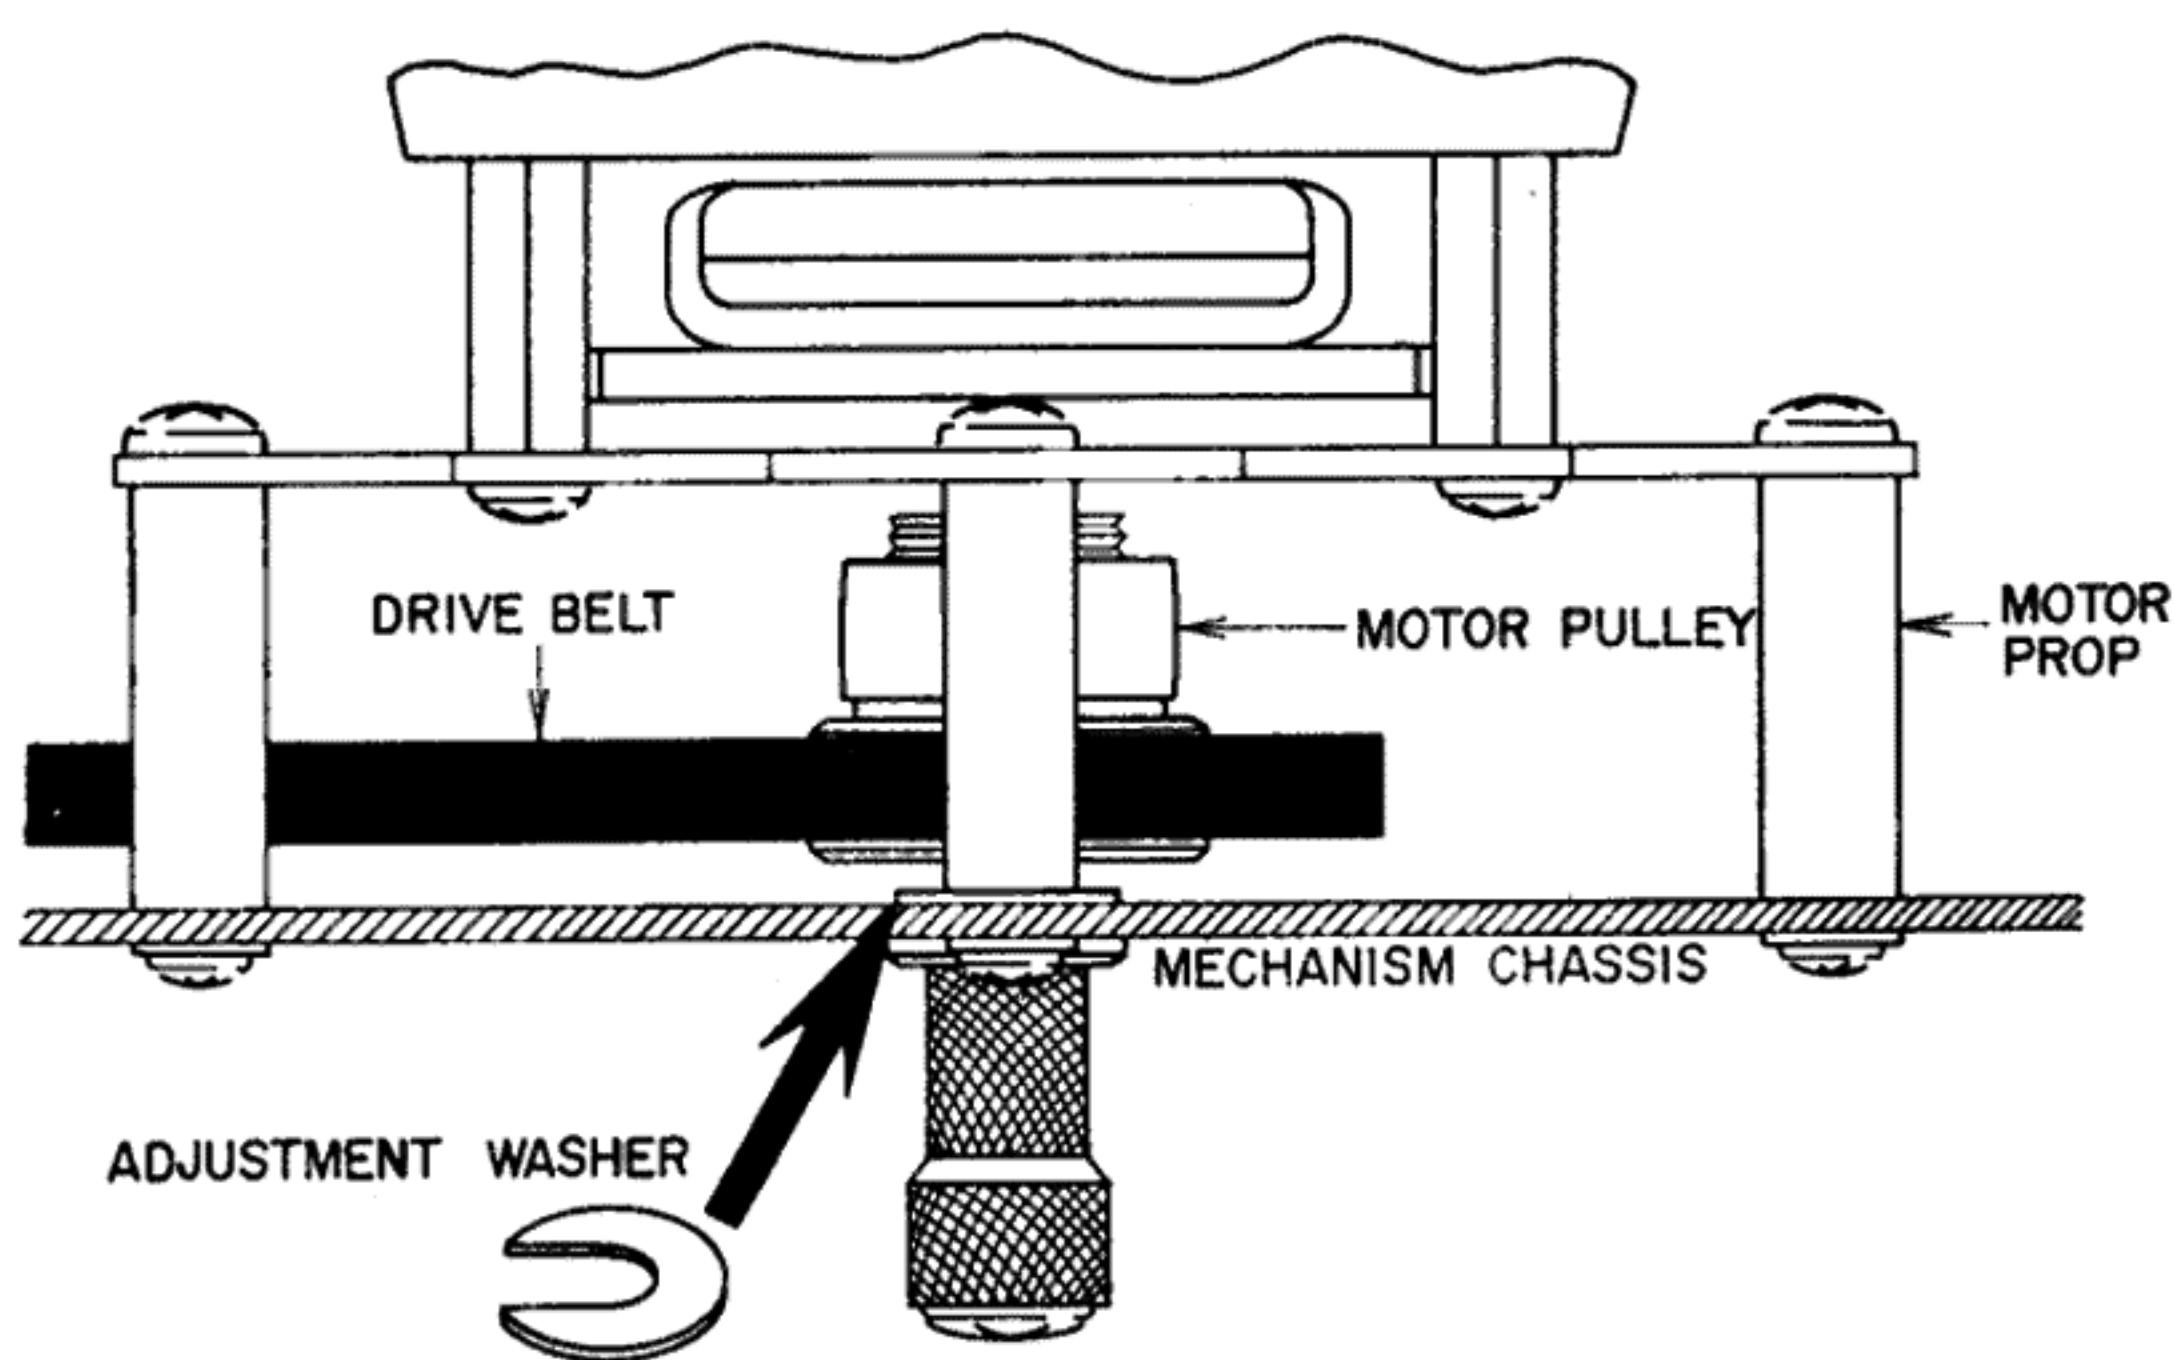

Fig. 12
4. DRIVE BELT POSITION ADJUSTMENT (See Fig. 12)
Adjust position of drive belt so that it comes to the center of the motor pulley by inserting a washer (or washers) between the motor prop and mechanism chassis as shown in Fig. 12.